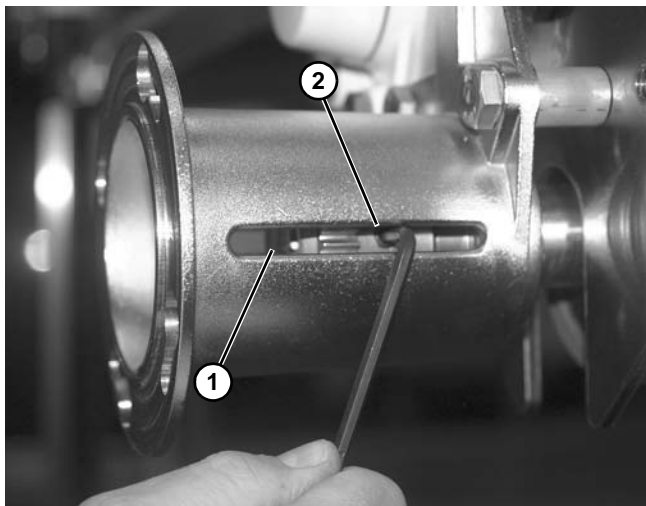

Figure 178
2. Using a hex key wrench through slotted access (**Figure 178, item 1**) of motor mount, loosen two set screws (**Figure 178, item 2**) from the center drive gear.